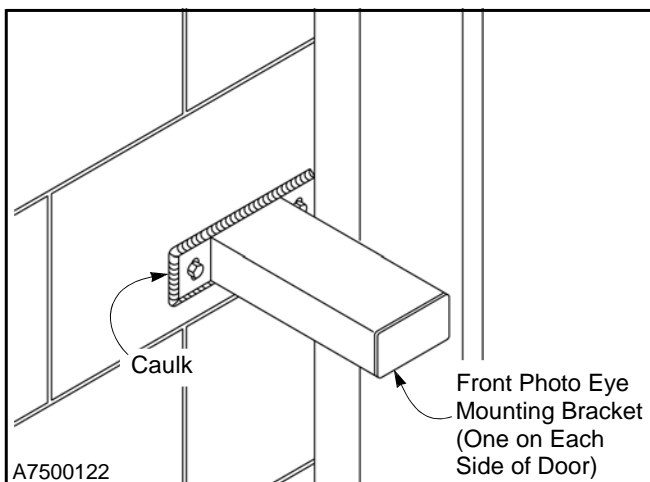

Figure 25
1. Inspect the hardware securing the front photo eye mounting brackets to the wall. (A manually assisted egress door has photo eye brackets on both sides of the door.) (See Figure 25.)